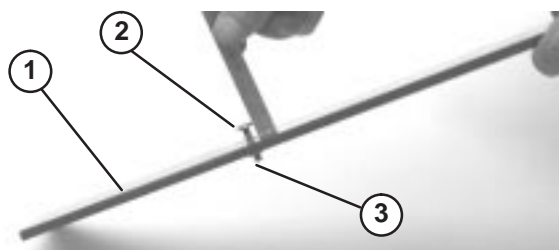

Figure 14
2. Loosen nut on gauge bar (Fig. 14) and set adjusting screw to desired height-of-cut. Distance between bottom of screw head and face of bar is height-of-cut.